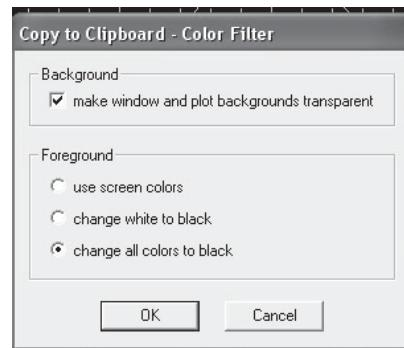

FIGURE 2.80 Copy to clipboard option.
- b. A copy to clipboard option window will pop up as shown in Figure 2.80. Choose either the option “change white to black” or “change all colors to black,” then press OK.